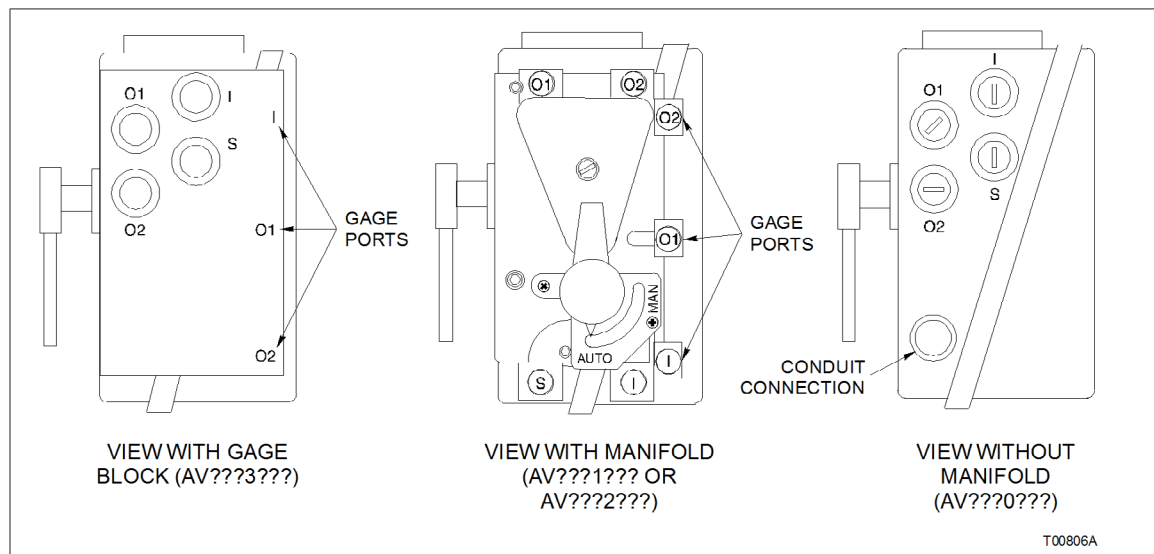

Figure B-5. Port Locations
1. Connect the required supply air to connection S (Fig. B-5).
2. Based on the positioner type, perform one of the following steps (Fig. B-5):